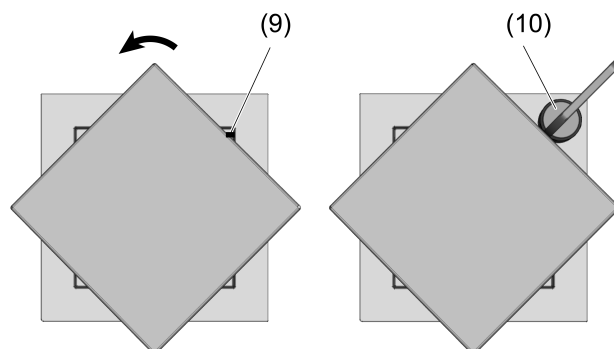

Figure 6
- Rotate the light attachment by 45° to expose the marking (9) (Figure 6).
- Place the magnet (10) at the level of the marking (9) on the cover until a click is heard.